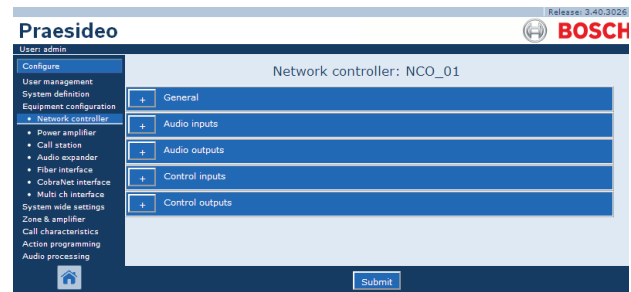

figure 43.3: Configure network controller, step 2
- 2 Click the name of the network controller that must be configured. A screen similar the one in figure 43.3 appears in the main frame of the web interface.